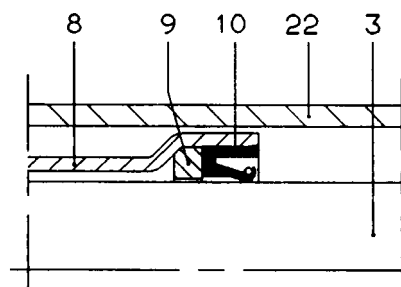

Fig. 18
Place the guide ring (9) in the spacer tube (8) as shown in *Fig. 18*.